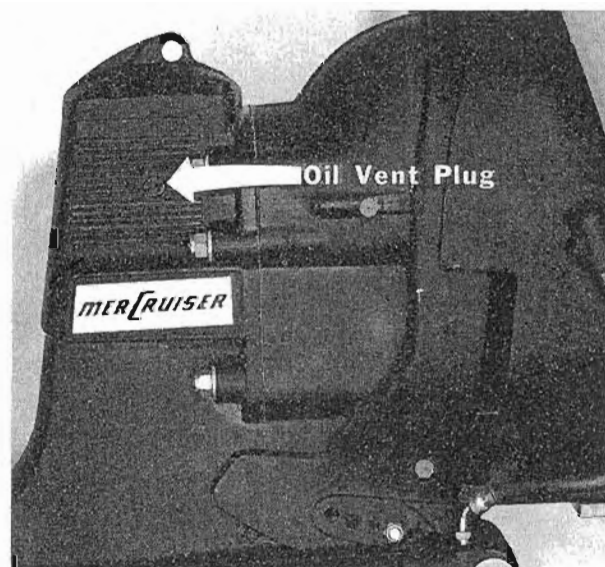
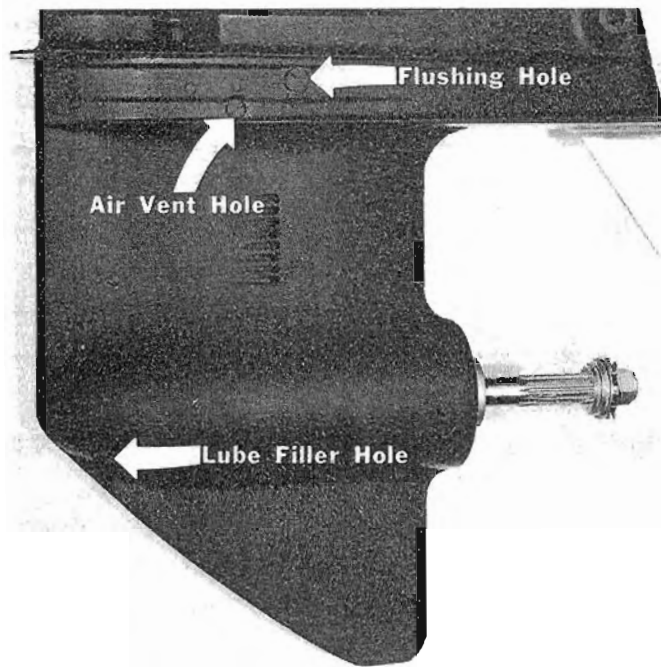

Fig. 2. Oil Vent Plug in Upper Gear Chamber
Figure 3. Air Vent Screw Hole and Oil Filler Hole
1. Remove the "AIR VENT" plug located on the left side of the gear housing, just above the anti-cavitation plate (Figure 3), the "OIL VENT" plug located on the right side of the drive shaft housing (Figure 2) and the filler plug located on lower left side of the gear housing (Figure 3), being careful not to lose the accompanying washers.
2. Insert lubricant tube into filler plug hole and inject lubricant until excess fluid starts to flow out of gear housing air vent screw hole (Figure 3), indicating that the gear housing is filled.
4. Continue filling thru the gear housing filler plug (Figure 3), until excess fluid starts to flow out of oil vent hole in drive shaft housing (Figure 2), indicating that both gear chambers are full.